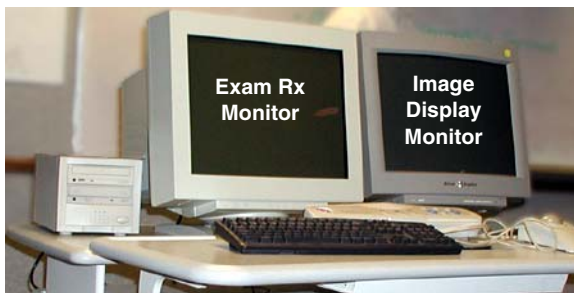

Figure 1-66 Global Console tabletop component placement
- 4.) Place the SCSI drive tower on the console desktop. A suggested placement is shown in Figure 1-66.